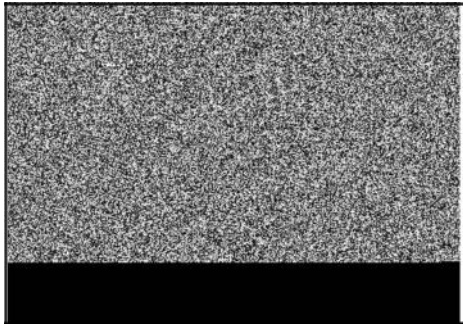

Figure 13
3. Oil inside diameter of new stem seal/washer and install on intake valve stem. Slide seal down against head plate or cylinder head (A, Figure 13).